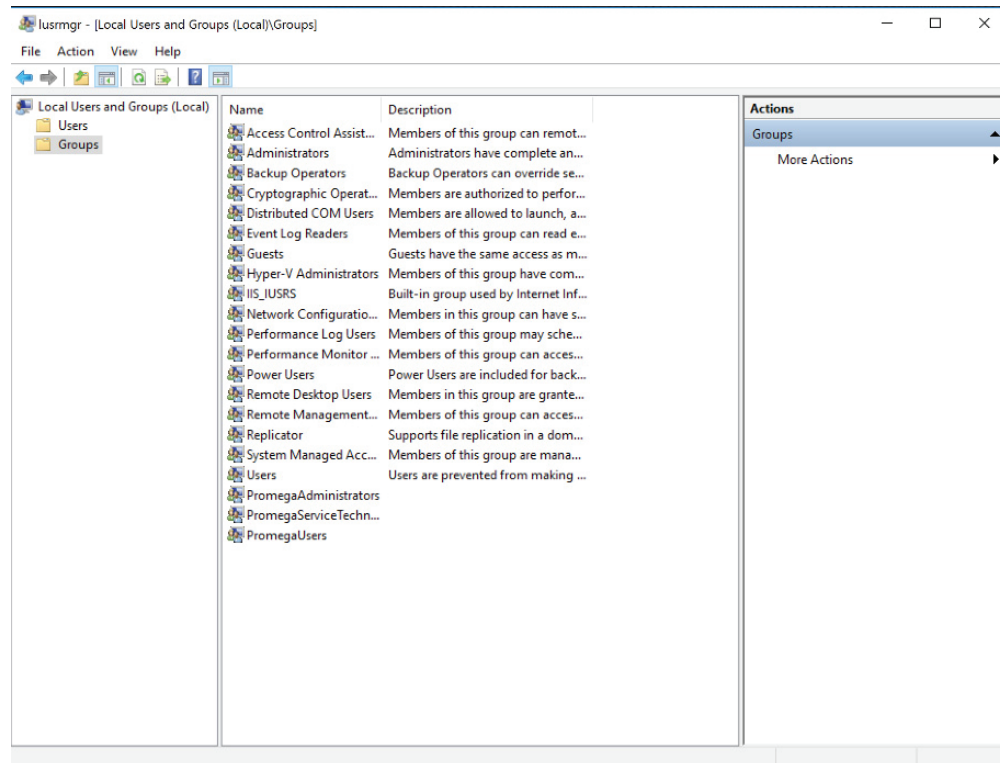

Figure 3. Groups folder. Access the PromegaAdministrators and PromegaUsers groups from the Groups folder on the '[Local Users and Groups (Local)]' screen.
- In the left pane of the '[Local Users and Groups (Local)]' screen, select the Groups folder to display the Groups on this PC in the middle pane of the screen (Figure 3). There will be a list of groups shown in the center part of the screen. Near the bottom of this list, you will see two groups (PromegaAdministrators and PromegaUsers) that are used to assign access level rights for Portal Access to Windows® user accounts.